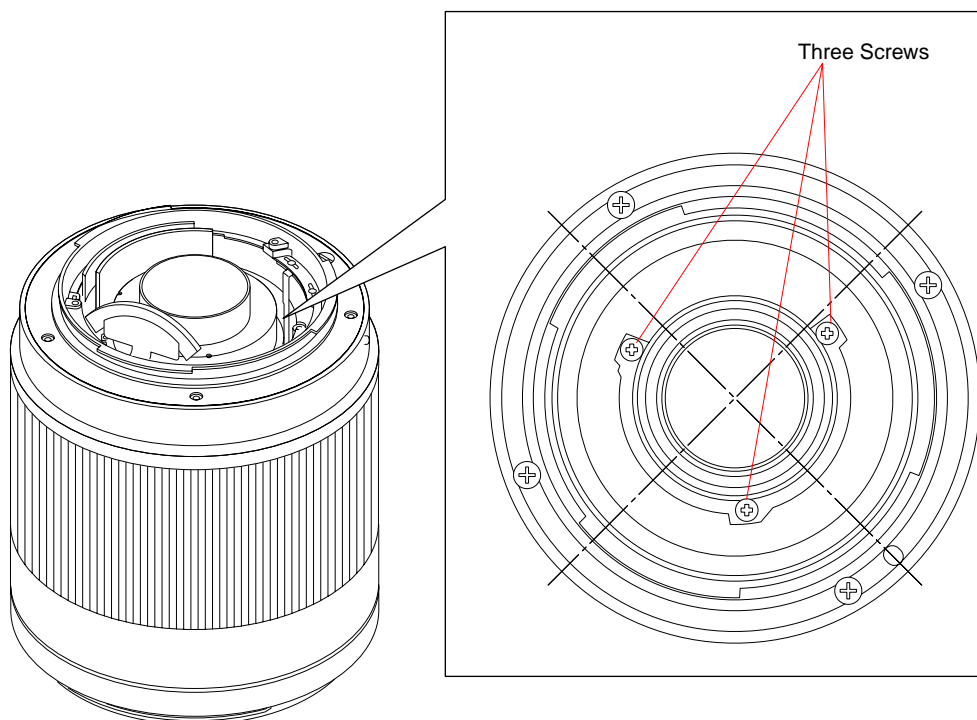

Fig.4-3-5
- 4) If the optical axis aligns the most unsharp, loosen the three screws shown in the Fig.4-3-5 and shift the 4th lens barrel-B assembly to let the vertical and horizontal.